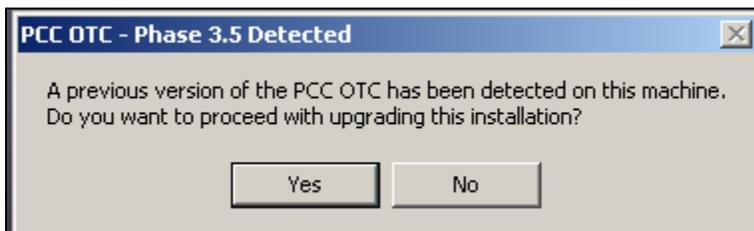

Figure 2.17.2
3. The screen should indicate that a previous version of PCC OTC has been detected (Figure 2.17.2). Click **‘Yes’** to continue.